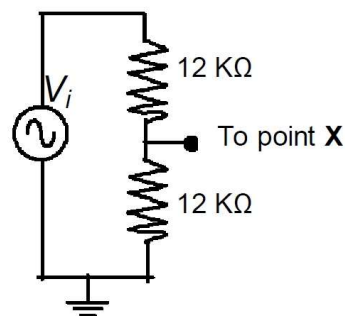

Fig.2
5. Now apply a fraction of the voltage  $V_i$  (keeping  $V_i$  at  $200\text{mV}_{\text{p-p}}$ ) to the point 'X' through the potential divider circuit as shown in Fig.2 and note the values of  $V_o$  for